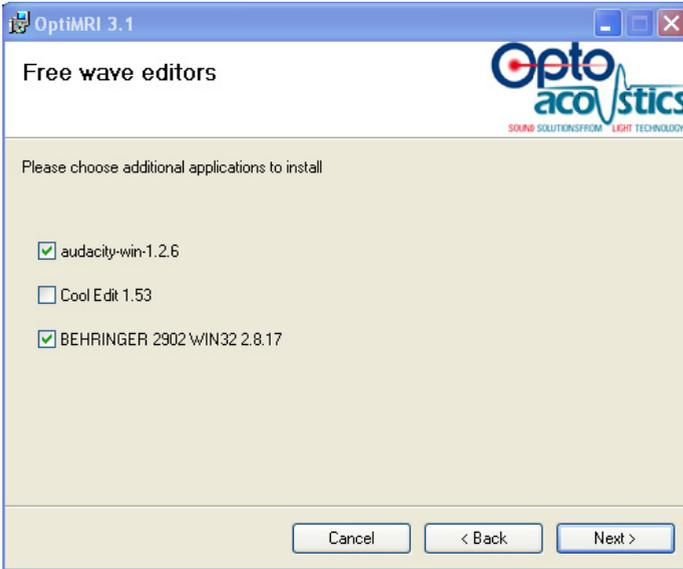

Figure A-2. Install Wave Editors Screen
6. Select Behringer 2902 WIN32 2.8.17 and any other the editor listed you want to install, and click Next (Figure A-2).